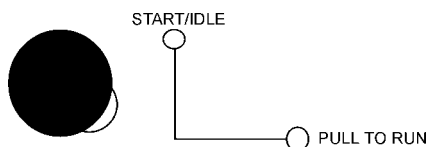

Figure 67. Engine Throttle Lever (IDLE)
3. If the engine is equipped with the engine throttle lever, turn and push to 'IDLE' position (Figure 67).